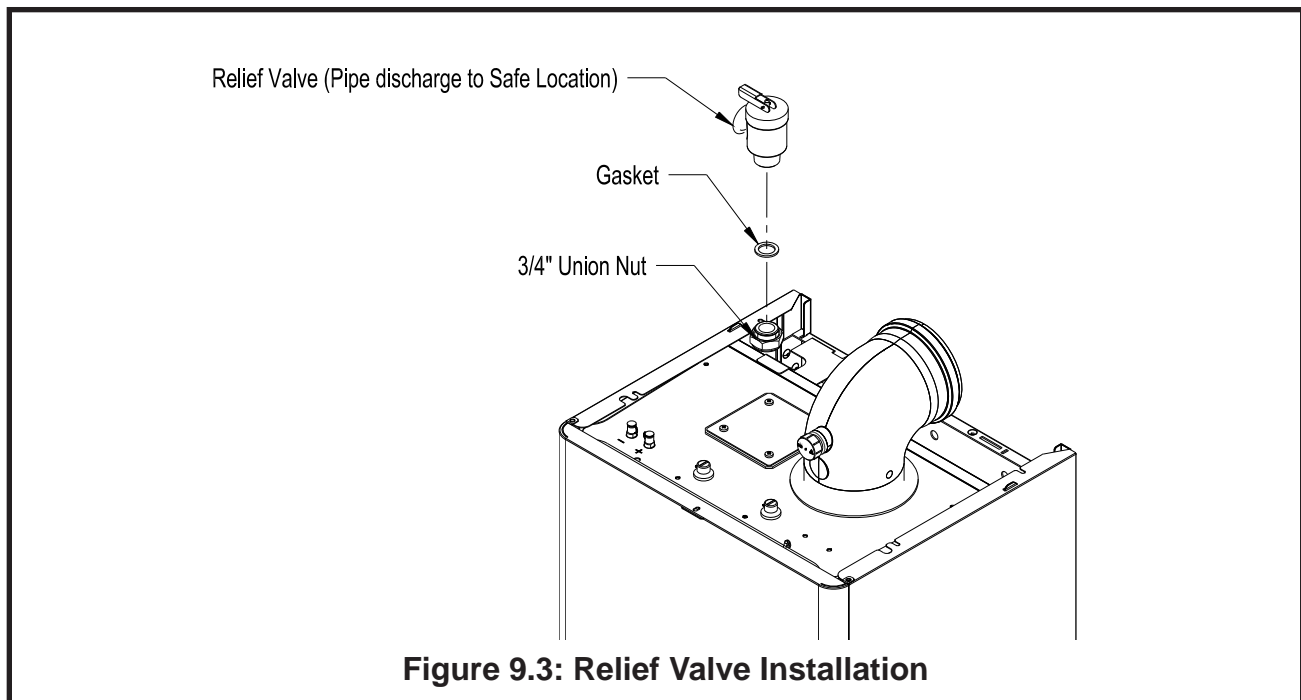

Figure 9.3: Relief Valve Installation
- 1) Relief valve (Included & Required) – Install the relief valve in the 3/4" connections on the top of the boiler as shown in Figure 9.3. The relief valve shipped with the boiler is set to open at 30 psi. This valve may be replaced with one having a setting at or below the Maximum Allowable Working Pressure (MAWP) shown on the ASME plate attached to the heat exchanger. If the valve is replaced, the replacement must have a relief capacity in excess of the Minimum Relief Valve Capacity shown on the rating plate.
The relief valve is installed using the union connection on top of the boiler as shown in Figure 9.3. Route the relief valve discharge to a safe location as described on Page 36.